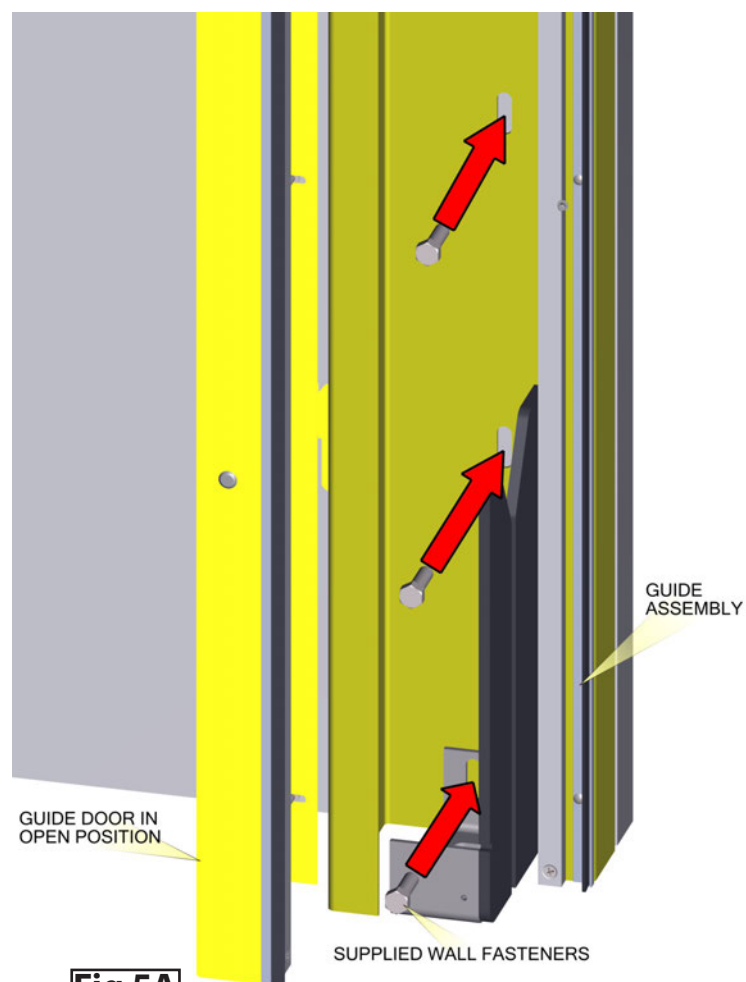

Fig 5A
- Open hinged guides and mount to the wall surface using supplied fasteners. See FIG 5A.